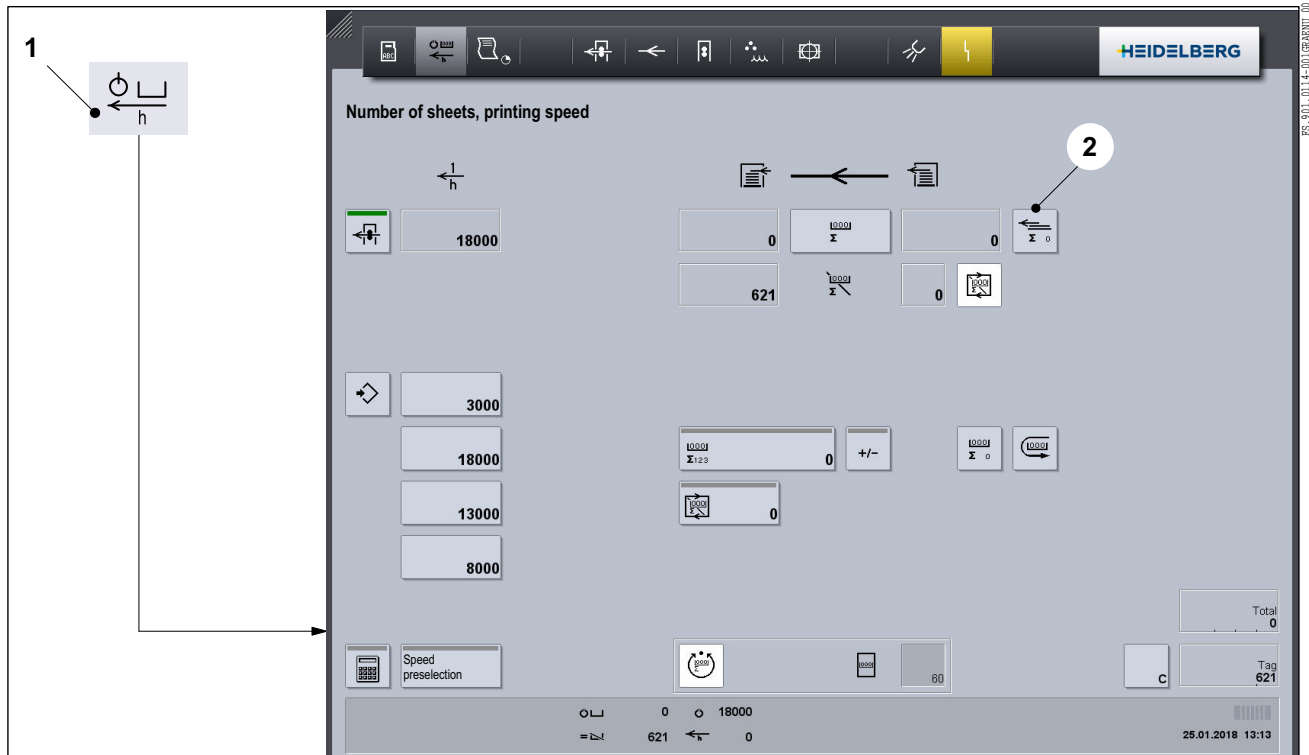

Fig. 6 Number of sheets, printing speed menu
1. Press the *Number of sheets, printing speed* button (Fig. 6/1) in the headline. The **Number of sheets, printing speed** menu appears.
2. Press the *Empty pile* button (Fig. 6/2). When the button has a light background, the machine continues to print after the desired number of sheets has been reached until the pile is empty.